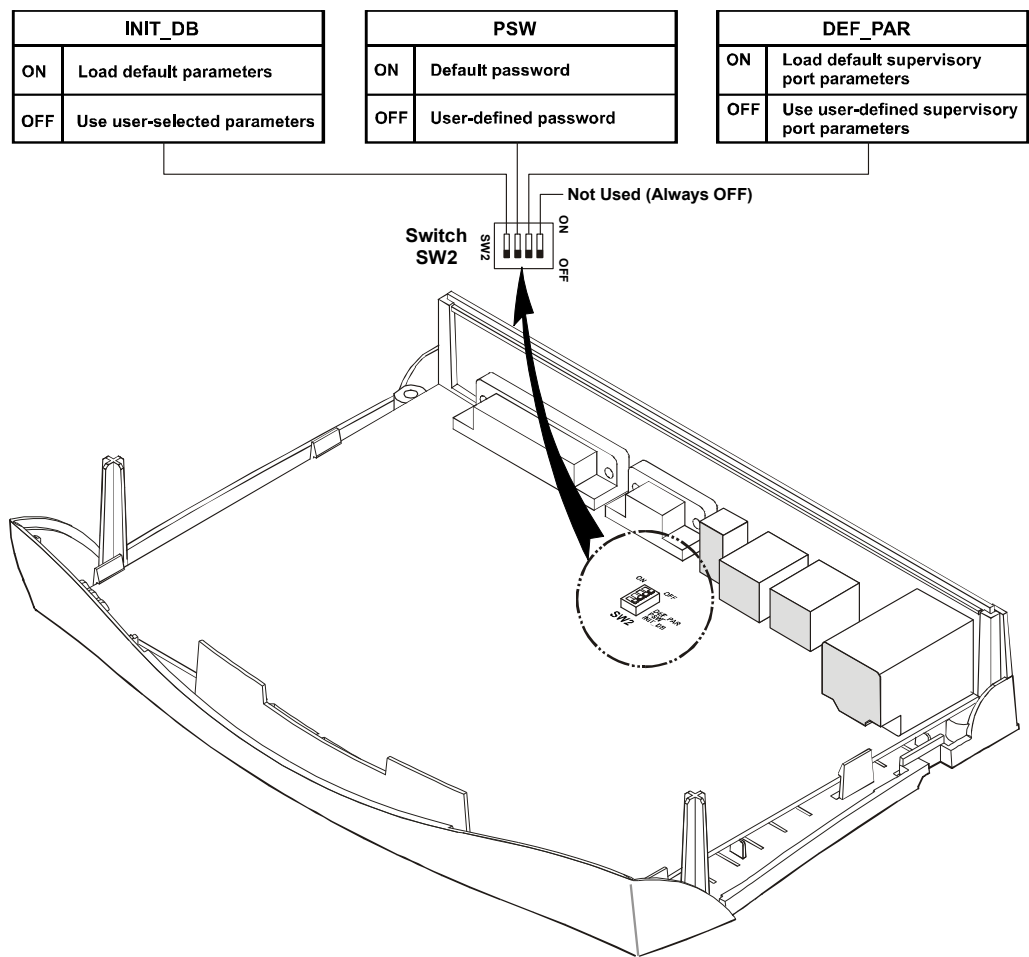

Figure 2-6. FCD-E1LC, Location of Switch SW2
1. Refer to Figure 2-6 and identify the location of the SW2 switch.